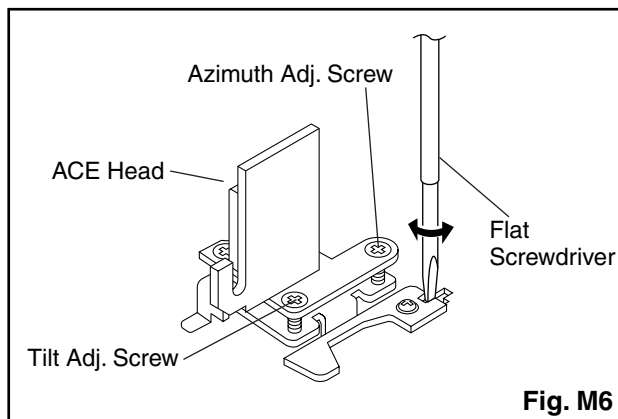

Fig. M6
4. If creasing or snaking is apparent, adjust the Tilt Adj. Screw of the ACE Head. (Fig. M6)
4. Use the Flat Screwdriver so that the PB FM signal at TP (C-PB) is maximum. (Fig. M6)
3. Adjust Azimuth Adj. Screw so that the output level on the AC Voltmeter or the waveform on the oscilloscope is at maximum. (Fig. M6)